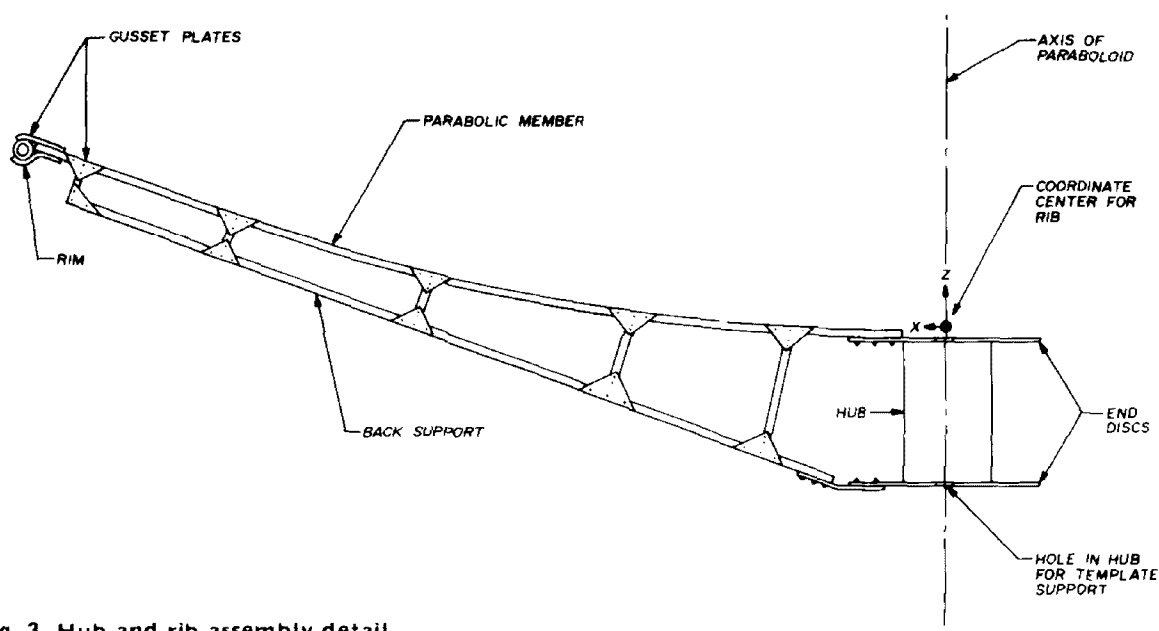

fig. 3. Hub and rib assembly detail.
(45.7 cm) apart. A number of cross braces are used to hold the rings together rigidly. While this construction method used only tubing and rivets, an improved hub construction would be a spool or reel design made of 1/8-inch (3.2-mm) aluminum plate and a 16-inch (40.6-cm) section of large diameter aluminum tubing. This hub design is shown in fig. 3.
made of angle iron, welded together. If the plywood jig is used, one edge of the plywood sheet is used as the axis of symmetry and the parabolic curve may be carefully laid out and drawn using the coordinates given in table 1. Draw in the remaining truss members as shown in fig. 3. The height of the rib at the hub end must be equal to the hub end plate
3. Richard T. Knadle, K2RIW, "A Twelve-Foot Stressed Parabolic Dish," *QST*, August, 1972, (fig. 3, page 19).